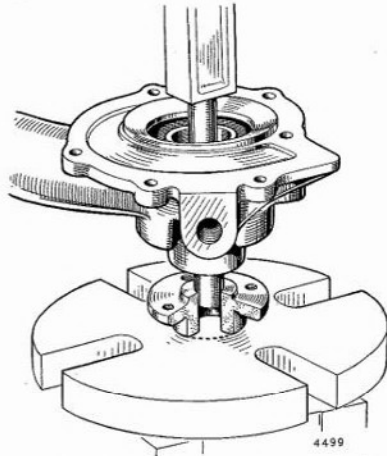

Fig. A.14. Pressing the bearing shaft into the fan mounting flange
2. Press the larger diameter of the bearing shaft into the fan mounting flange (flange face downward), until the dimension shown in Fig. A.10 is obtained, thus guaranteeing correct alignment of the fan and crankshaft pulleys on re-assembly. It is recommended whilst pressing, that the mounting flange be suitably supported on the table of a press and the ram applied to the opposite end of the bearing shaft, as shown in Fig. A.14.